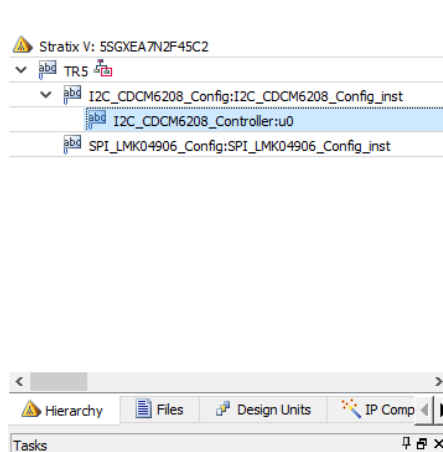
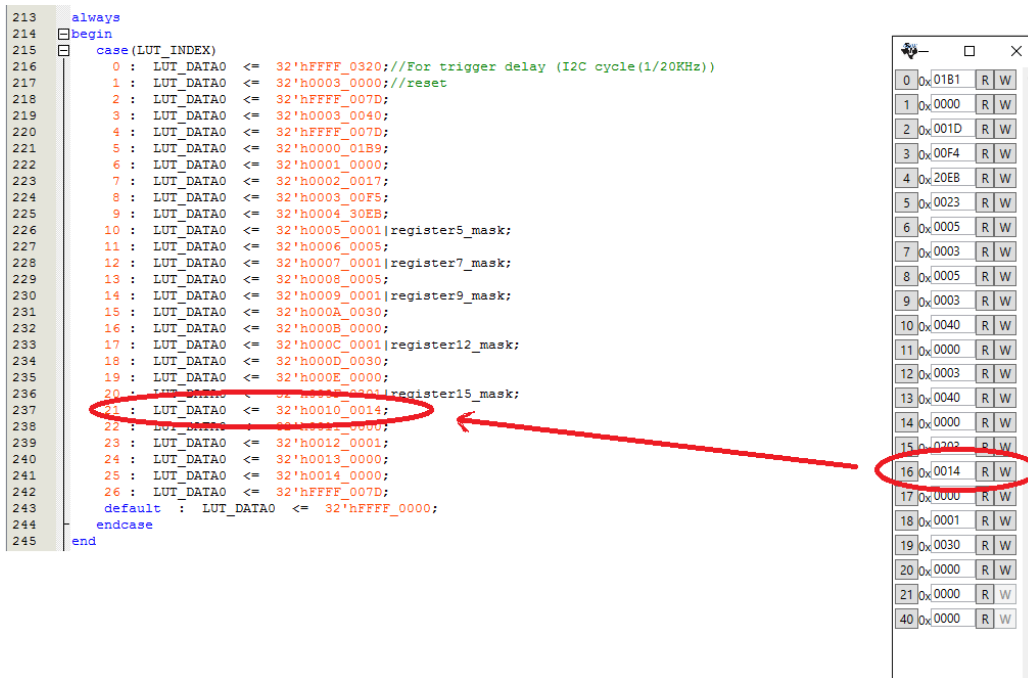

Figure 5-7 Sub-Module file "I2C_CDCM6208_Config.v"
Figure 5-8 Modify CDCM6208 Control IP Base on Register Table
4. Open CDCM6208 control IP sub-module "I2C_CDCM6208_Config.v" as shown in **Figure 5-7**, refer to Register Table to modify all the sub-module corresponding register values (See **Figure 5-8**).